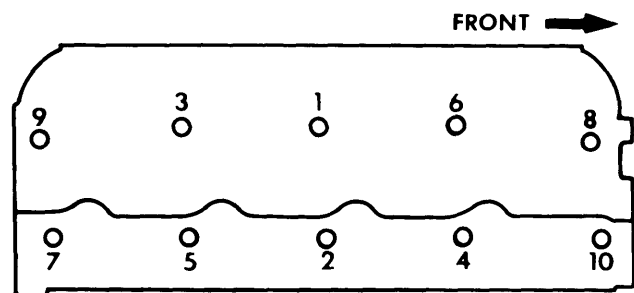

Fig. 1 Tightening Sequence for Cylinder Head
**Installation** — Reverse removal procedure to install cylinder head. Be sure that gasket surfaces on head and cylinder block are clean and that cylinder head bolt threads and threads in block are clean. Tighten cylinder head bolts in sequence shown in Fig. 1. To install remaining components, reverse removal procedure.